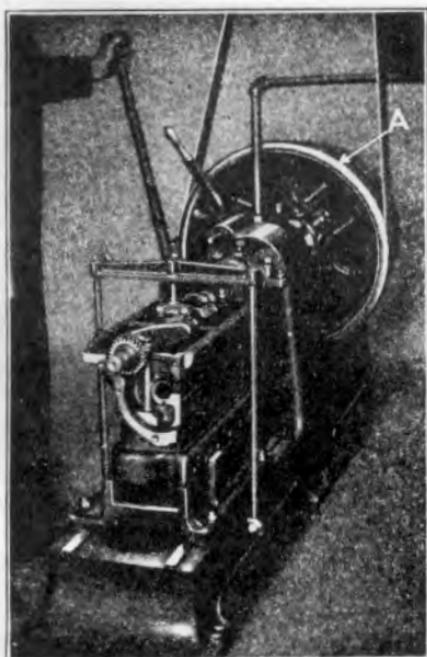

Fig. 171
- 248 The next operation is to run in the crankshaft. This requires a running-in stand (See Fig. 171). With the crankshaft revolving at a speed of approximately 700 R. P. M. the bearings can be burnished in from one to two minutes. The bearings should smoke freely and be liberally oiled while being run in. If they do not smoke it indicates a loose fit and some shims should be removed from each side of bearing caps. Bearings should then be tightened and the running-in operation repeated.
- 249 When sufficiently run in, the shaft can be turned over with the hand wheel on the running-in stand (See "A" Fig. 171) or by means of a 20" turning bar.